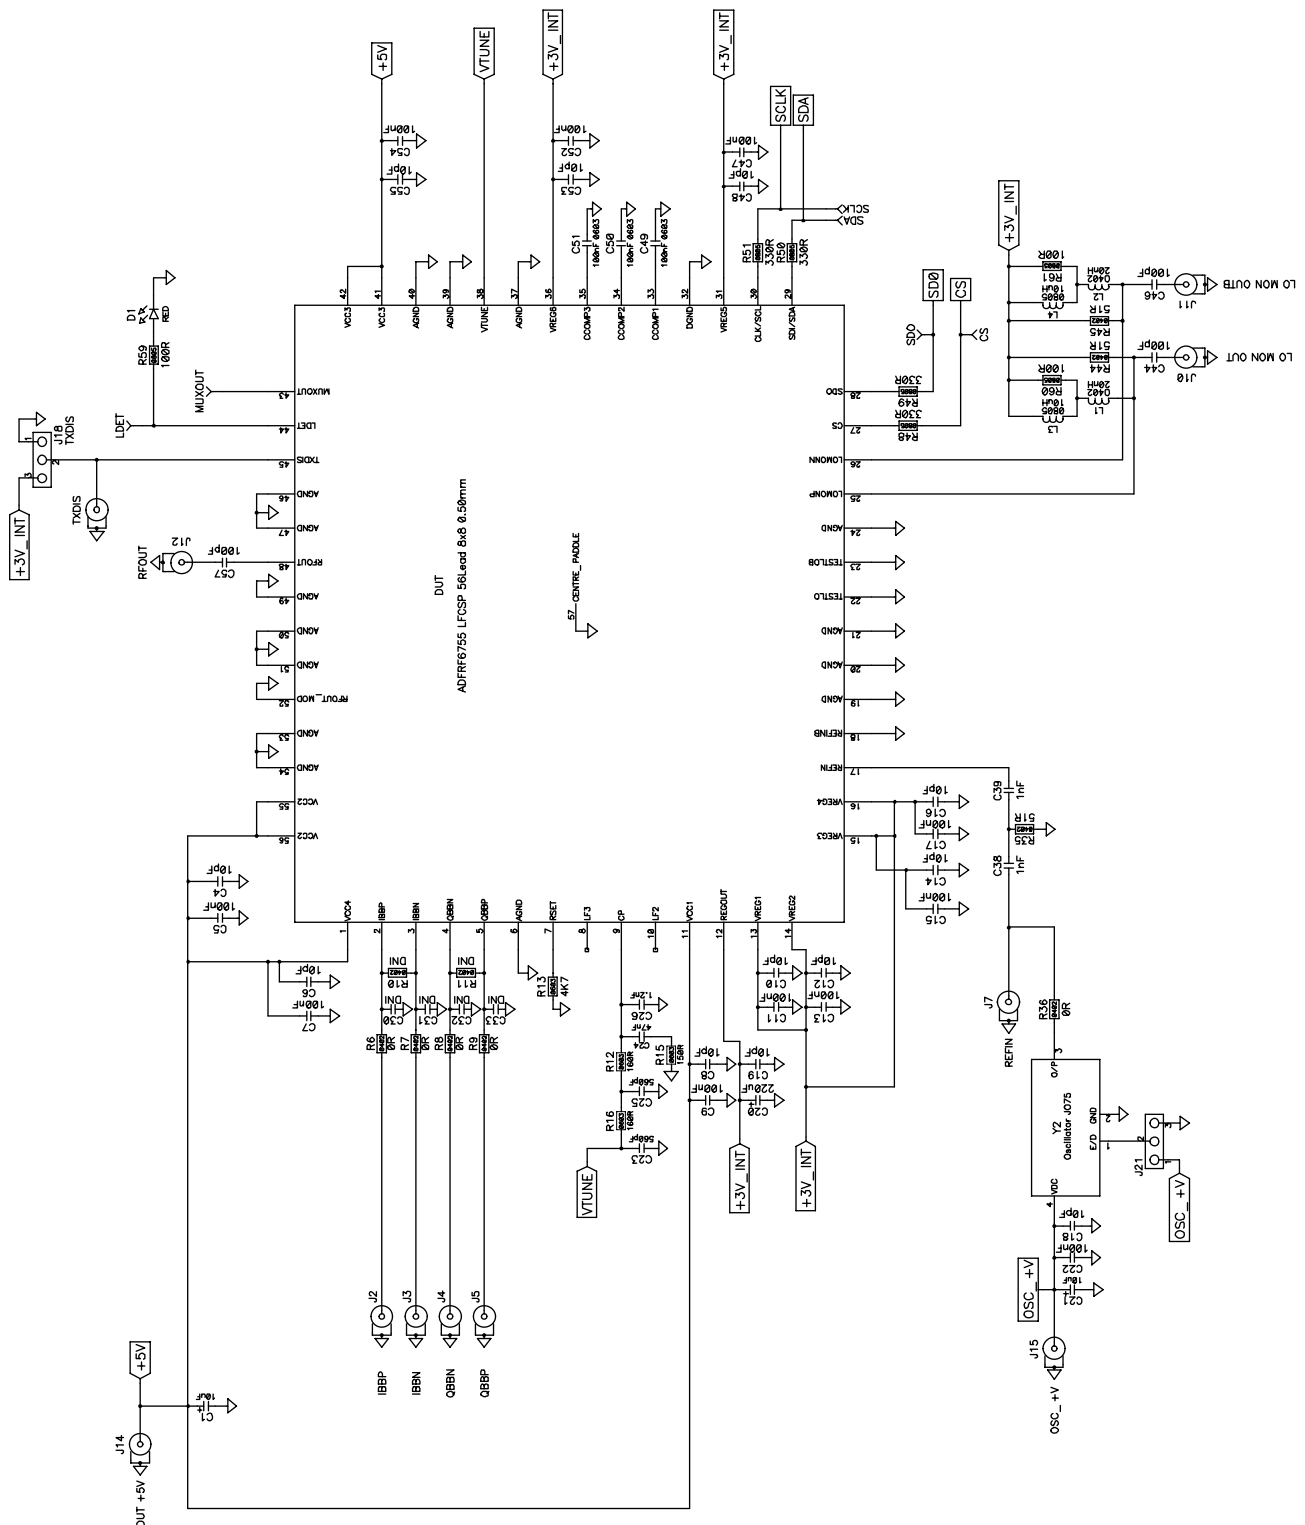

Figure 70. Applications Circuit Schematic
22. Write 0xF0 to Register CR9. With the recommended loop filter component values and  $R_{SET} = 4.7 \text{ k}\Omega$ , as shown in Figure 70, the charge pump current is set to 5 mA for a loop bandwidth of 100 kHz.
For more information, refer to the circuit diagram in Figure 70.